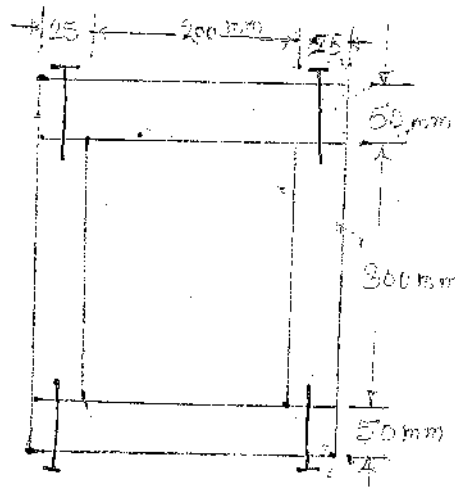

Fig. 6.1
6. a) A beam is constructed of two $50 \text{ mm} \times 250 \text{ mm}$ in cross section that are attached by $25 \text{ mm} \times 300 \text{ mm}$ boards as shown in Fig. 6.1. The boards are nailed to the beams at a longitudinal spacing of 110 mm . If each nail has an allowable shear force of 1350 N , what is the maximum permissible shear force 'V' ?